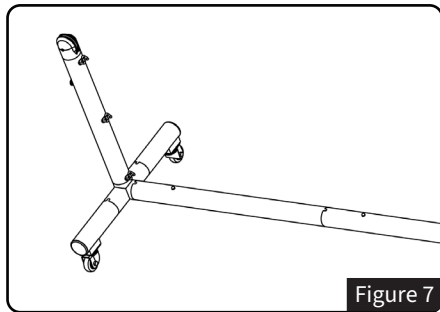

Figure 7
- Connect center frame to the **Tri-Link (B)** component on both assembled bases. See *Figure 7*.